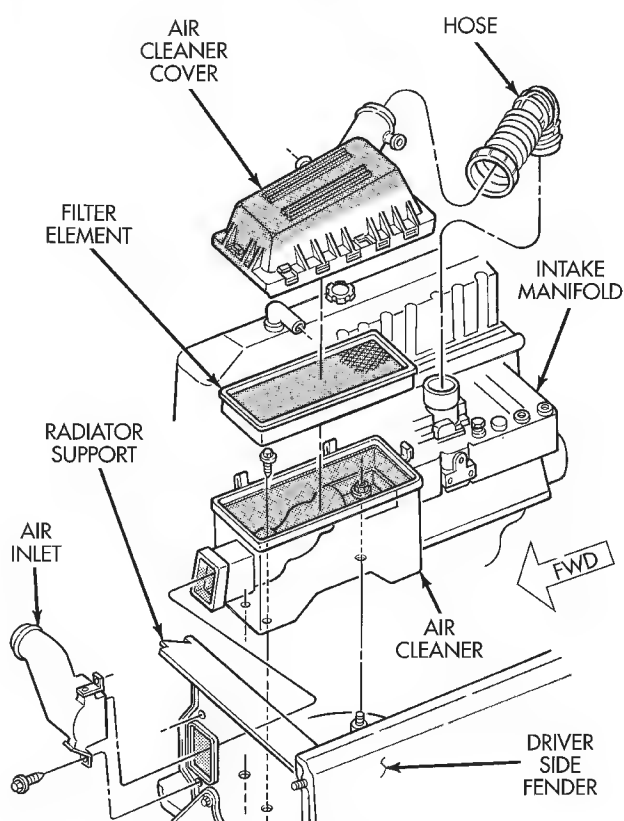

Fig. 8 Air Cleaner Components
- (1) Disconnect vent hoses at air cleaner cover.
- (2) Loosen clamp securing air cleaner hose to intake manifold. Use screwdriver to tap clamp loose.
- (3) Remove air cleaner cover and hose. Then remove air filter from air cleaner housing (Fig. 8).
- (4) Remove two bolts and one nut that secure air cleaner housing to body (Fig. 8).